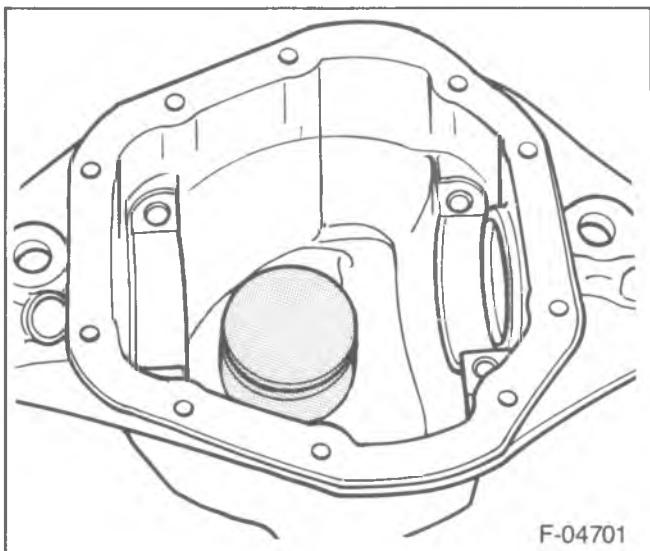

Figure 104—Master Pinion Block
2. Install D-120 to the pinion bore (figure 104).